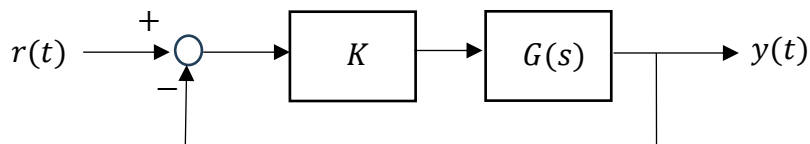

Figure Q1c
- (c) The plant is to be controlled using a proportional controller, as in Figure Q1c. Determine